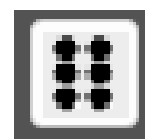

fig. 4
- With the raised elements still selected/highlighted, select the **Braille** icon as indicated on the right. This will open the Braille Output Menu options. fig. 4